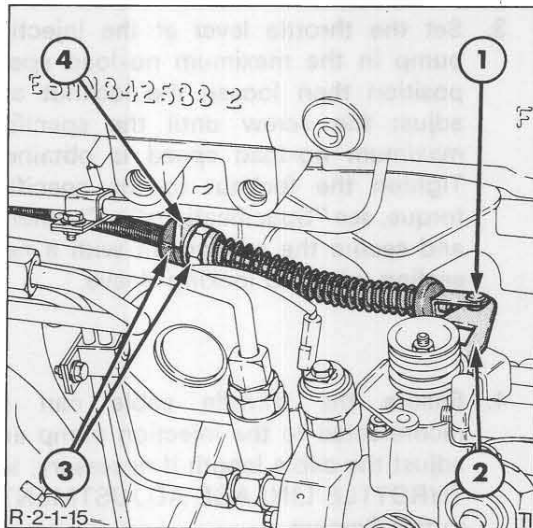

Figure 15
1. Disconnect the throttle cable from the fuel injection pump lever and loosen the cable locknuts at the engine bracket, Figure 15.
6. Connect the throttle cable to the fuel injection pump lever and adjust the barrel locknuts to position the barrel in the engine bracket with the pump lever in the idle position, Figure 15.